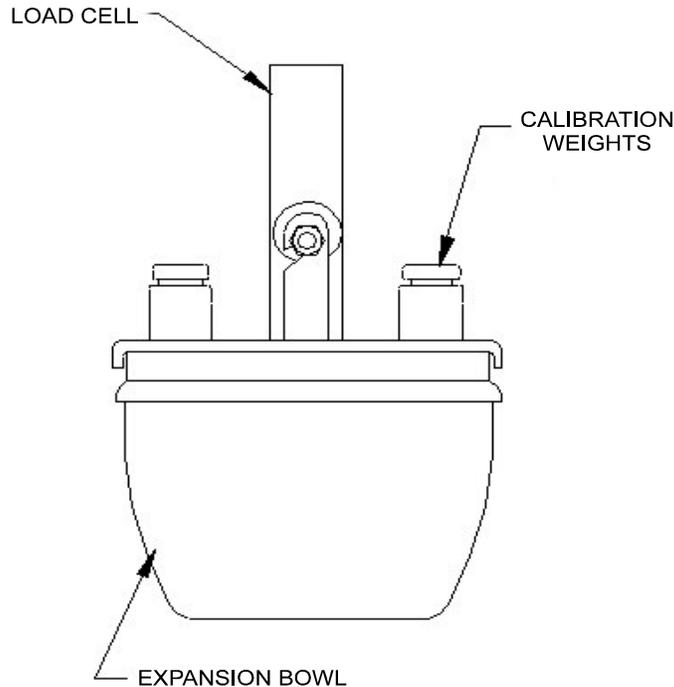

Figure 13-2
- C. Carefully place two 50 gram test weights on the cross piece which supports the Expansion Bowl as shown in Figure 13-2.